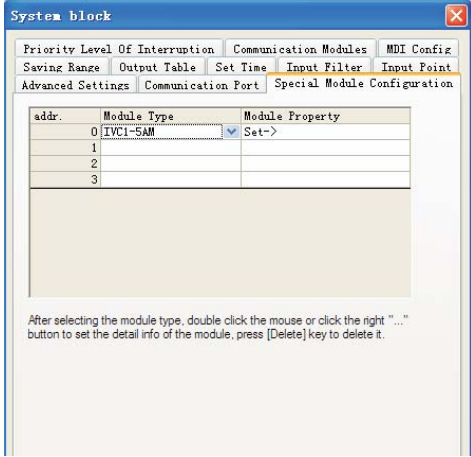
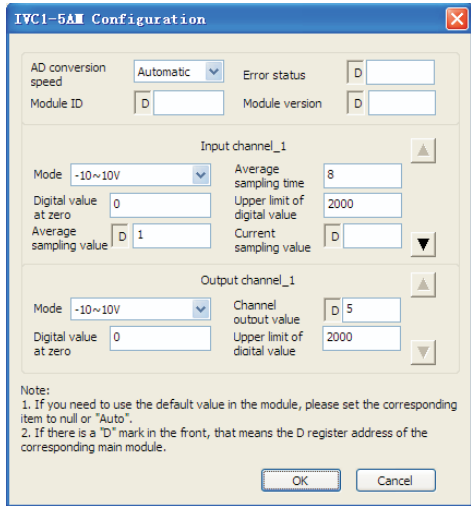

Figure 4-1 Setting special module type
Figure 4-2 Setting special module parameters
9. BFM#4094: module software version, displayed automatically as **Module Version** in **IVC1-5AM Configuration** dialogue box of the host software, as shown in Figure 4-2.
Example: The IVC1-5AM module address is 1 (for the addressing of extension modules, see *IVC Series PLC User Manual*). Use its channels 1, 2, 3 and 4 for voltage signal input (-10V~10V), set the average sampling times to 8, and use data registers D1, D2, D3 and D4 to receive the average value; set output channel to mode 0 to output 10V voltage signal, and use D5 element. Set extension module type as shown in Figure 4-1, and set actual parameters of extension module. Figure 4-2 shows the setting of input channel 1 and output channel 1. Set the other three input channels respectively in the same way.